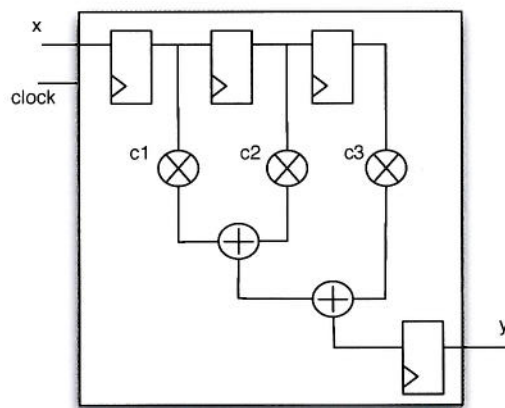

Figure 6.1 FIR system
6. a) Figure 6.1 shows a circuit that performs FIR filtering according to the following equation